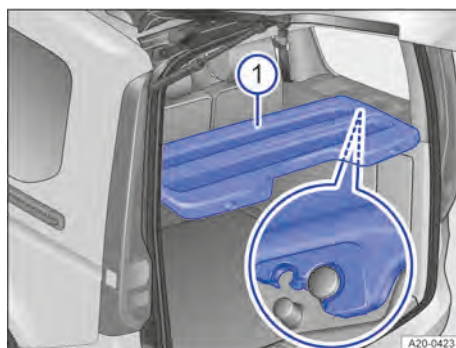

Fig. 148 In the luggage compartment: luggage compartment cover.
4. Push the luggage compartment cover until it has clicked into place in the large retainers → Fig. 148.
2. Engage the luggage compartment cover in the two smaller retainers → Fig. 148.